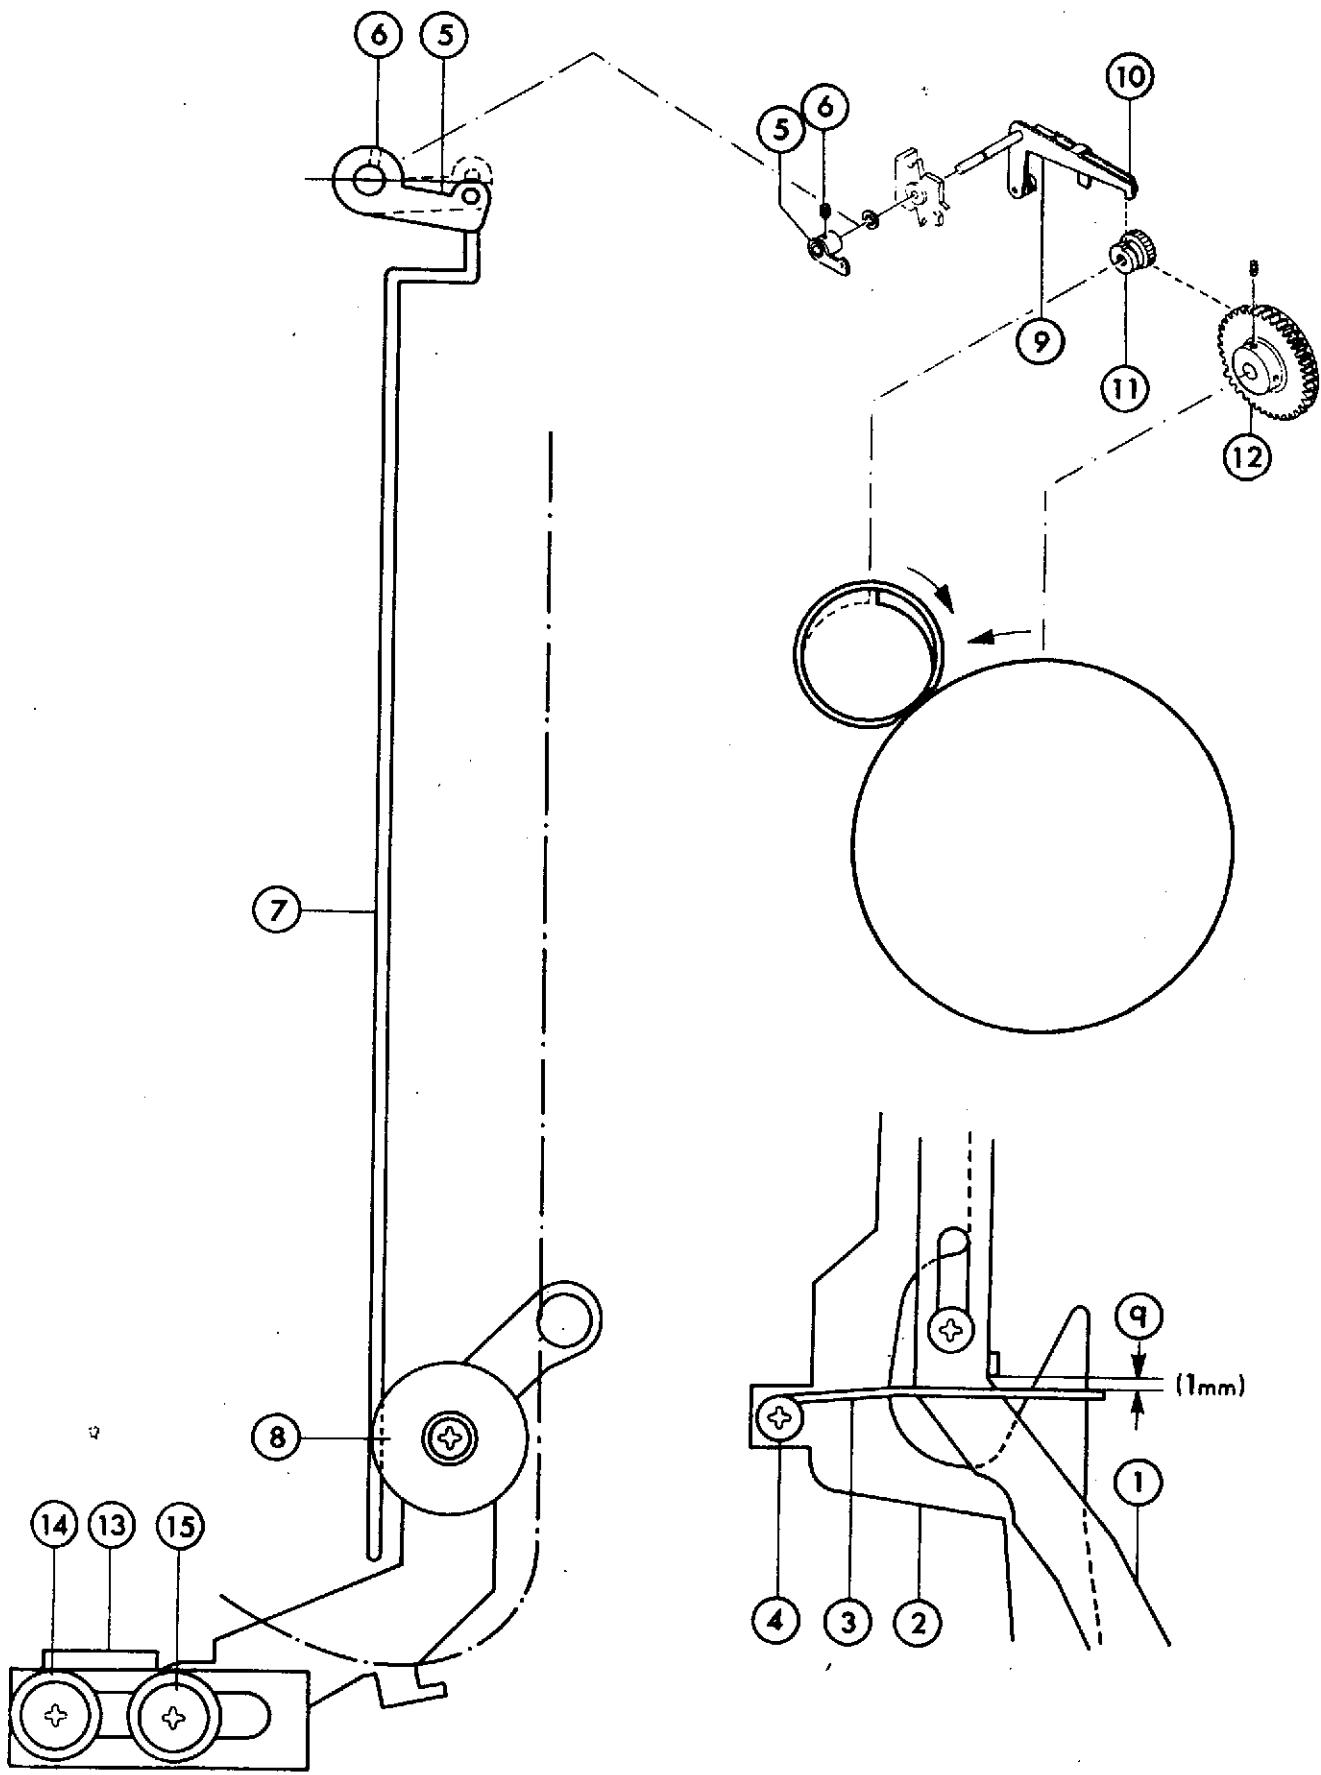

Fig. 25
- * Adjust the position of Fig. 25-3 to keep approx. 1mm distance in (q) in Fig. 25 and fix Fig. 25-3 with Fig. 25-4.
- * Make certain that the distance (q) in Fig. 25 is maintained after Loop Restorer works several times.